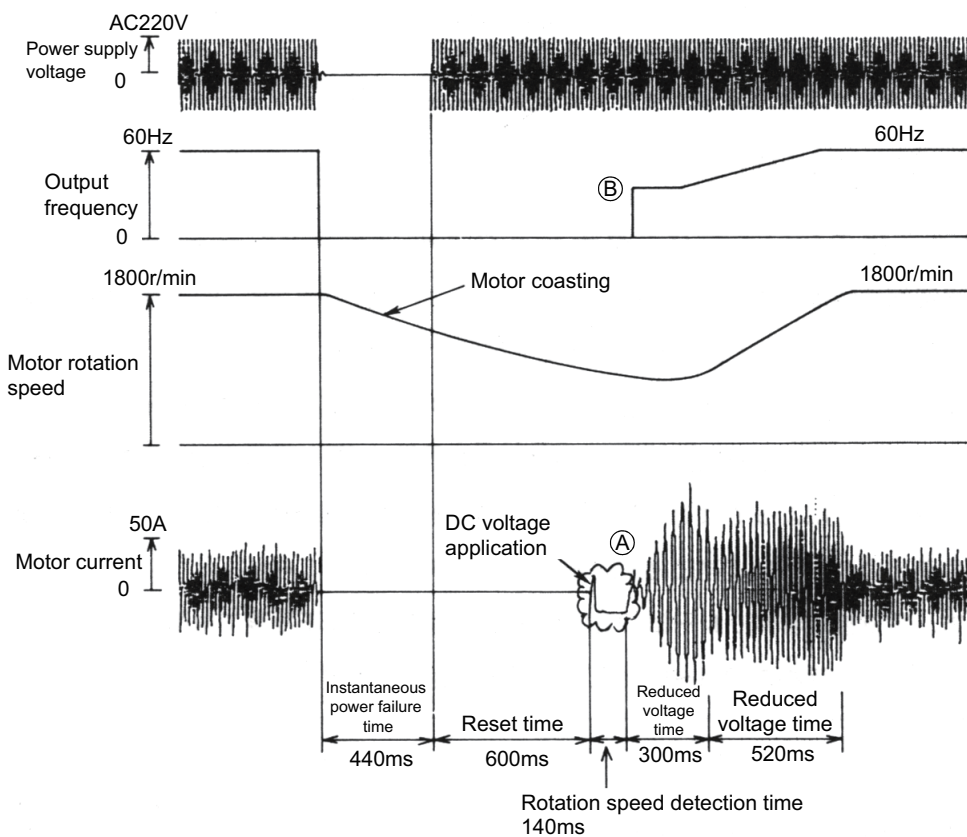

Fig.7.9 Example of instantaneous power failure restart operation
- 2) After restarting, when applying DC voltage from the inverter to the motor under coasting, DC flows into the motor. (Refer to Fig.7.9 ①)
- 4) The inverter outputs with the frequency according to the rotation speed of the motor. (Refer to Fig.7.9 ②) After that, the inverter operation restarts with the output voltage increased gradually to control the starting current of the motor.